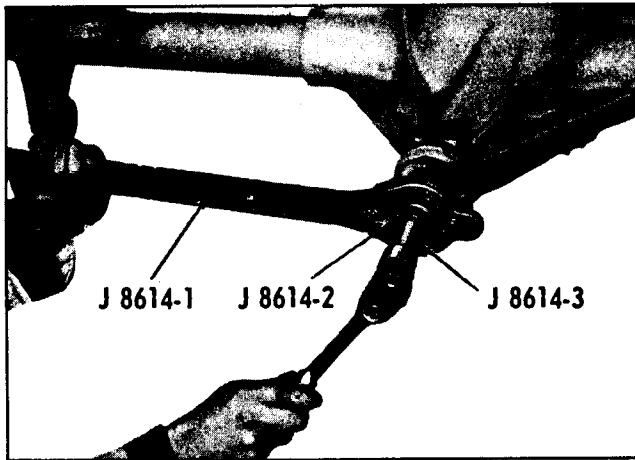

Fig. 4A-34 Removing Companion Flange
2. If replacing front pinion bearing, install new outer race by using installer J 8611-01-P, J 7817-T, F, or G.P. with driver handle J 8092 (Fig. 4A-37).